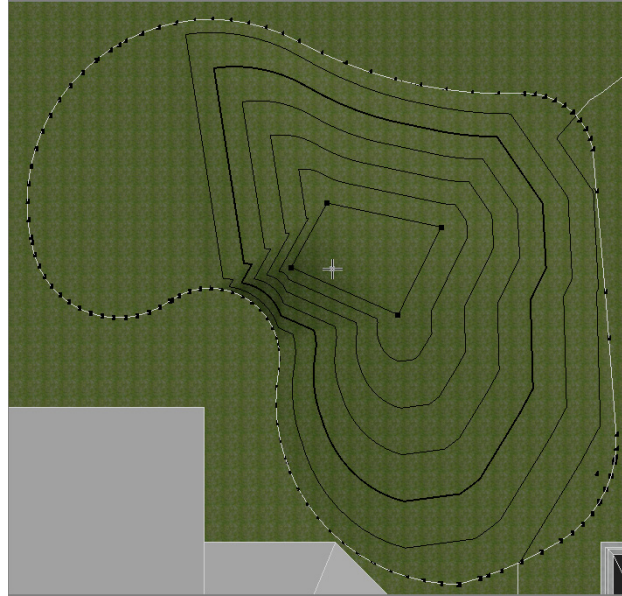

FIGURE 18.9: Adding a new datum elevation
1. Select the newly formed toposurface, as shown in Figure 18.9.
5. Pick four points near the center of the hill (see Figure 18.9).